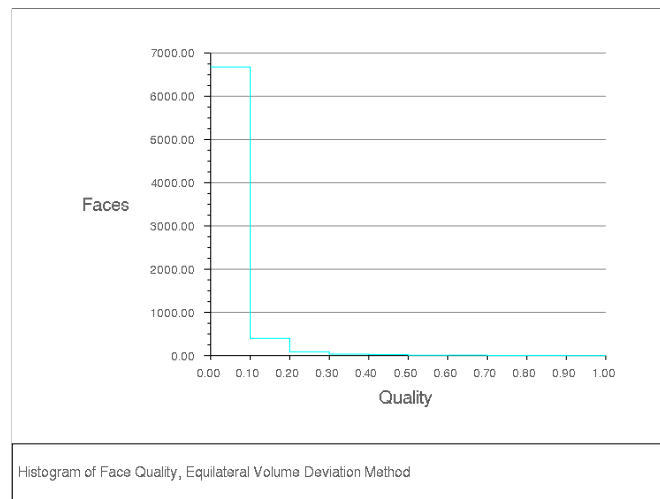

Figure 1.7: Histogram Plot of Face Skewness
3. Click **Plot** (Figure 1.7).